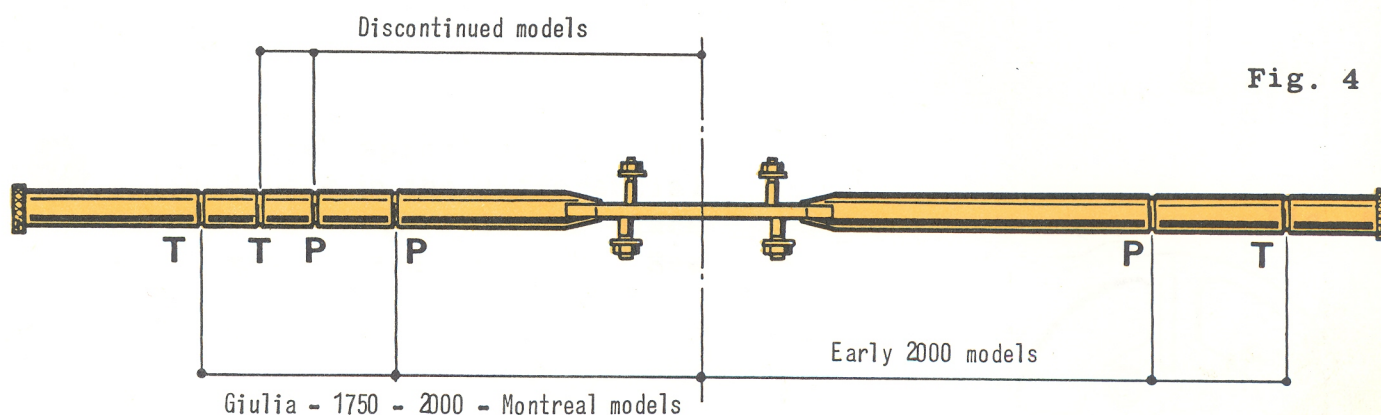

Fig. 4
The tool is completed by the weight "B" and the stops "C". Reference marks for each car model are cut in the tool arms (see fig. 4).
- 3 Bring the arm applicable to the model being tested to the R.H. side (operator's right side when he is facing the tool); it should be born in mind that the grooves in the tool arms marked "P" must be used for checking the pre-load of pinion bearings only; the grooves marked "T" must instead be used for checking the total pre-load of bearings of pinion when matched to the crown wheel. See fig. 4.